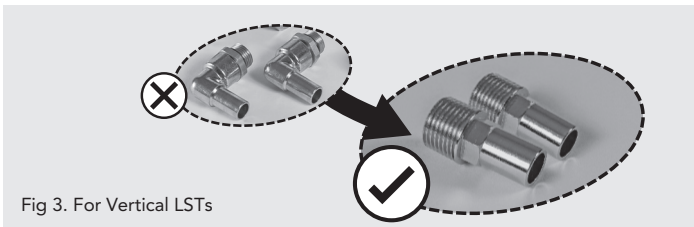
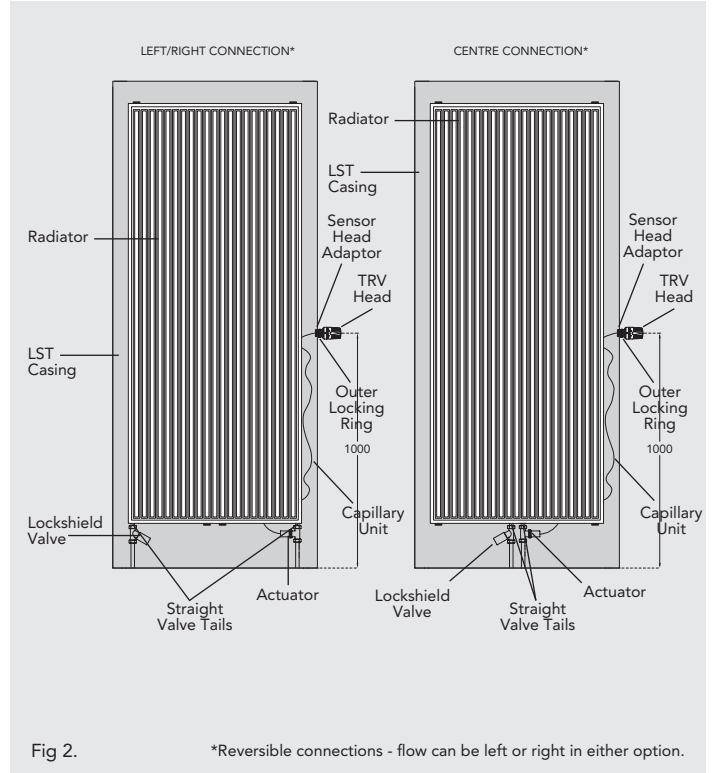

Fig 3. For Vertical LSTs
Fig 2.
- PLEASE NOTE: For use with Vertical LST radiators, the integration elbows are to be replaced with straight valves tails which are supplied with the Vertical LST radiator. See Fig. 2 and Fig 3.**